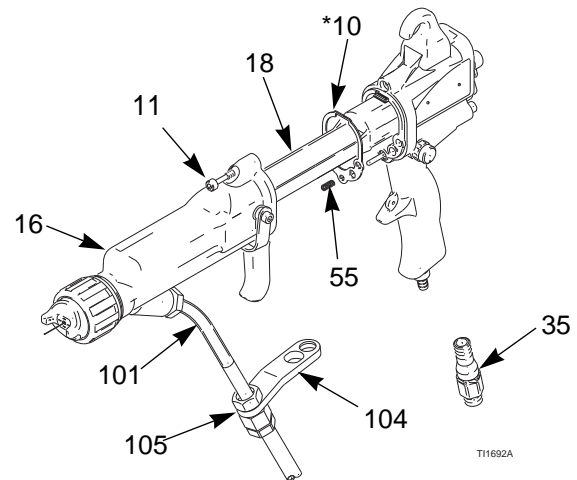

Fig. 30. Barrel Installation
1. Be sure the gasket (10*) and grounding spring (55) are in place. Make sure the gasket air holes are aligned properly. Replace if damaged. See FIG. 30..
2. Place the barrel (16) over the power supply (18) and onto the gun handle (17).
3. Tighten the three screws (11) oppositely and evenly (about a half turn past snug).